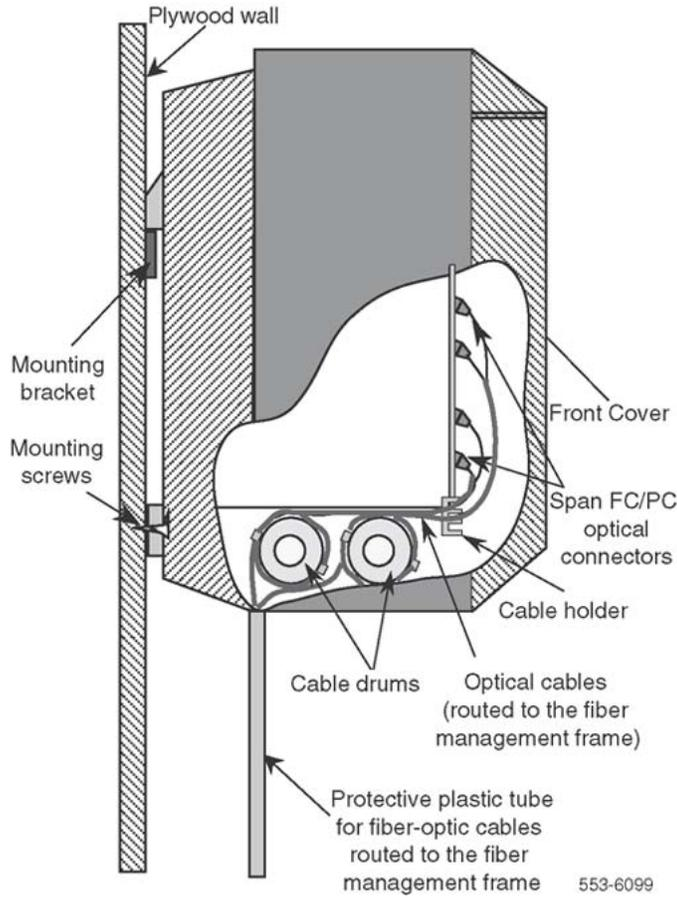

Figure 15: Optical cable routing for the wall-mounted cabinet
PC optical connectors located on the NT1P62 Fiber Peripheral Controller card faceplate. Figure 15: Optical cable routing for the wall-mounted cabinet on page 65 shows a fiber-optic link connected to the NT1P63 Electro-optical packlets.
3. At the Remote IPE cabinet, carefully push the cable end(s) through the protective tubing to guide, support, and protect the cable under the cabinet, as shown in Figure 15: Optical cable routing for the wall-mounted cabinet on page 65.
Extend it through the hole at the bottom of the cabinet as shown in Figure 15: Optical cable routing for the wall-mounted cabinet on page 65.
Figure 15: Optical cable routing for the wall-mounted cabinet on page 65 shows the tube that protects the fiber-optic link cable from damage. It also shows the routing of the fiber-optic link